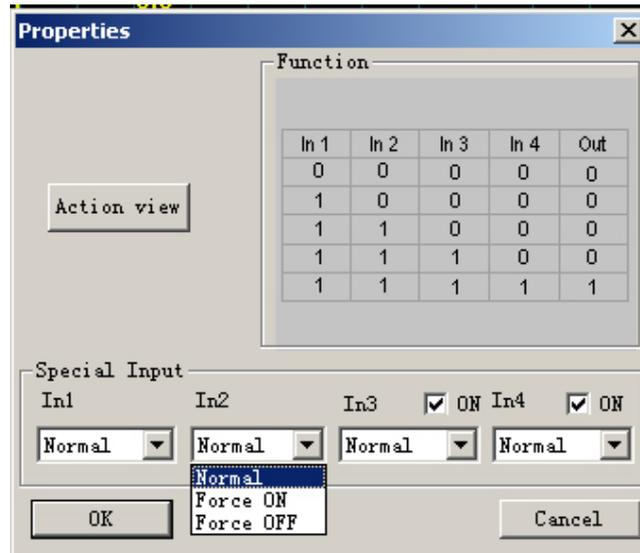

Fig 4.6 Dialog Box of Property setup
2. Property dialogue box, as shown in fig4.6, to setup each item of content according to what you need, you also could click "Action view" to observe the action process of this module.